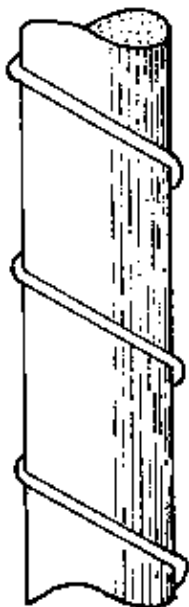

Fig. 2
– RIBBED BARS: The round bars with a ribbed surface are called ribbed bars and are available in diameters ranging from 6 mm to 40 mm, if the bar is cross-ribbed (Fig. 2, next page). For obliquely ribbed bars, the diameters range from 6 mm to 28 mm (Fig. 3, next page). This last type of reinforcement is also called "tensor bar" and it is the strongest reinforcement steel available.